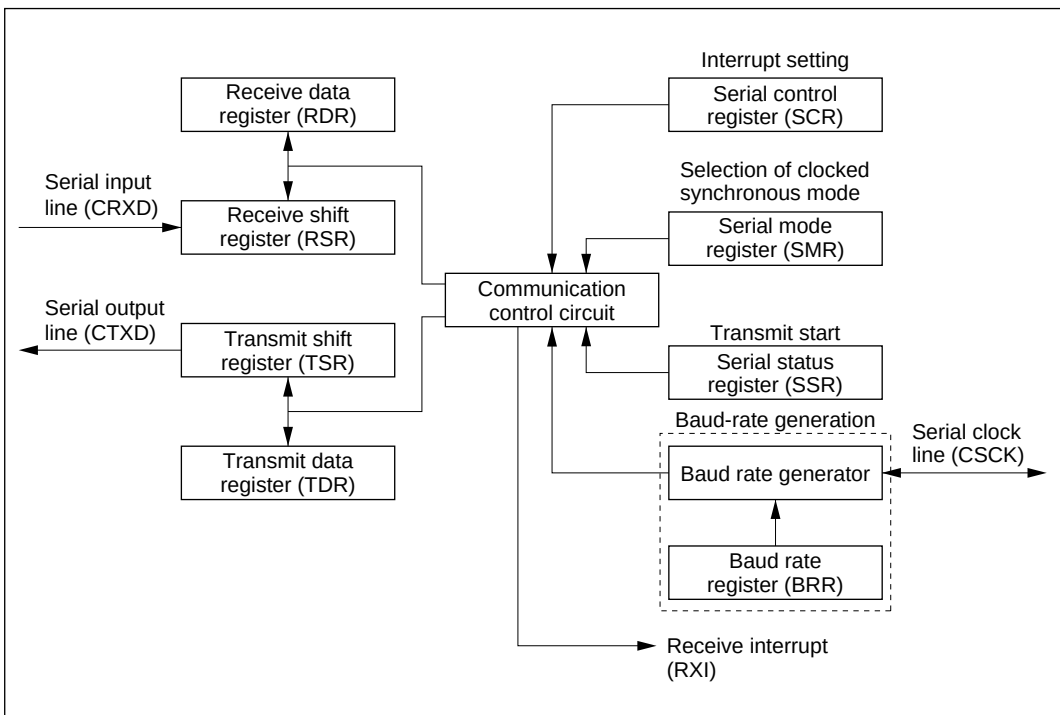

Figure 2 SCI Block Diagram
1. Figure 2 shows a block diagram of the SCI used by this sample task. The SCI has the following features:
This task uses these features to interface with an H4019 as shown in figure 2.